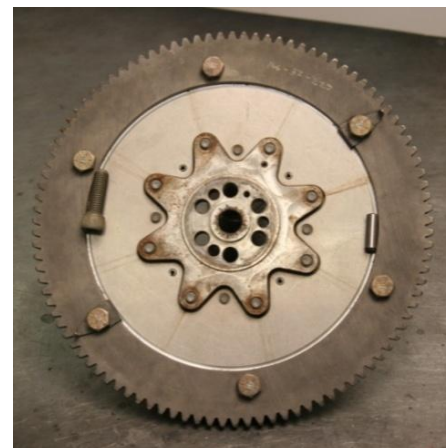

Figure 64 – Starfish Flywheel
- Current engines use a steel adaptor between the crankshaft and the flywheel, called a “starfish” because of its shape (shown in Figure 64). While not mandatory it is recommended that at overhaul engines are updated to this arrangement. The aluminium flywheel and alternator rotor are among the parts required for the update – contact Jabiru Aircraft for details.